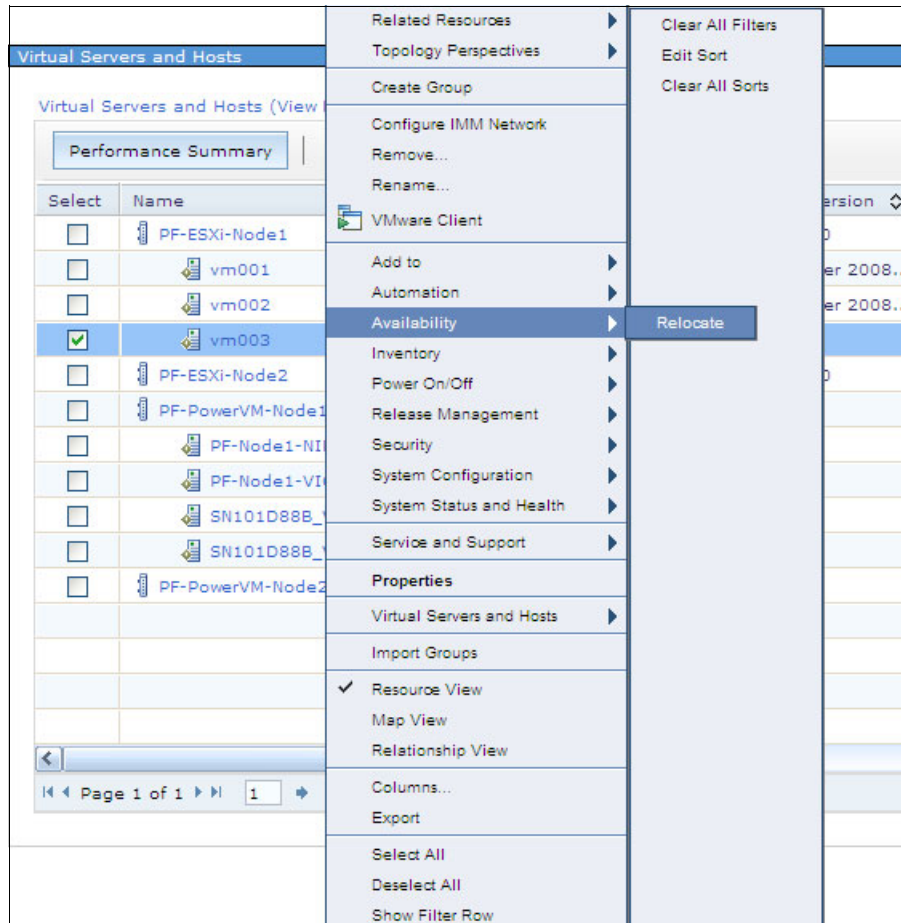

Figure 11-24 Relocate menu item for selected virtual server
1. Select the virtual server that you want to relocate to another host (in this example, **vm003**), and click **Actions** → **Availability** → **Relocate**, as shown in Figure 11-24.